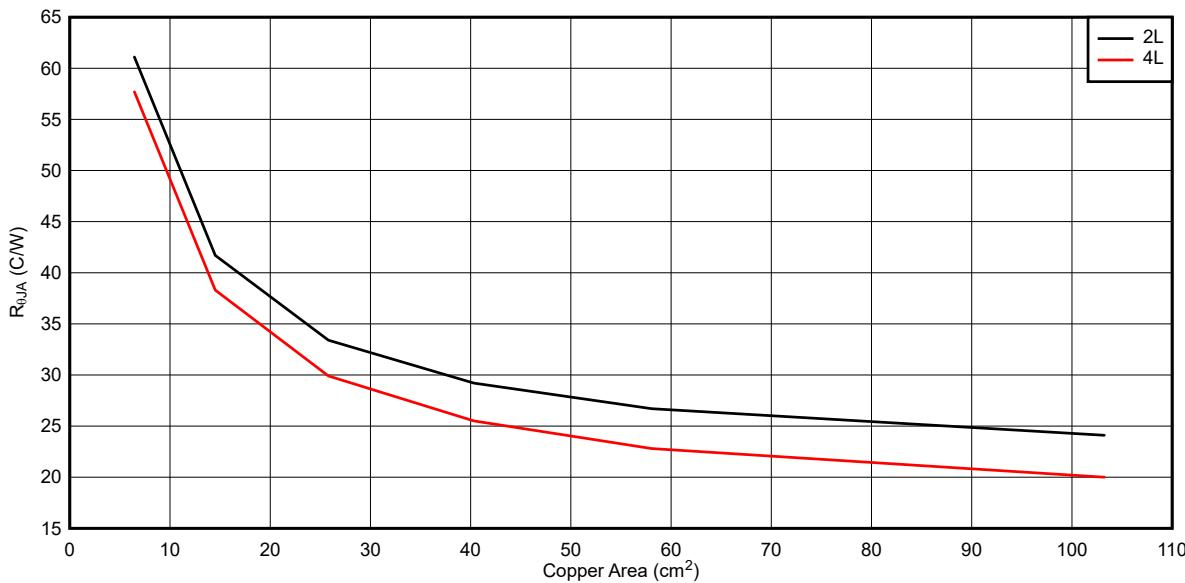
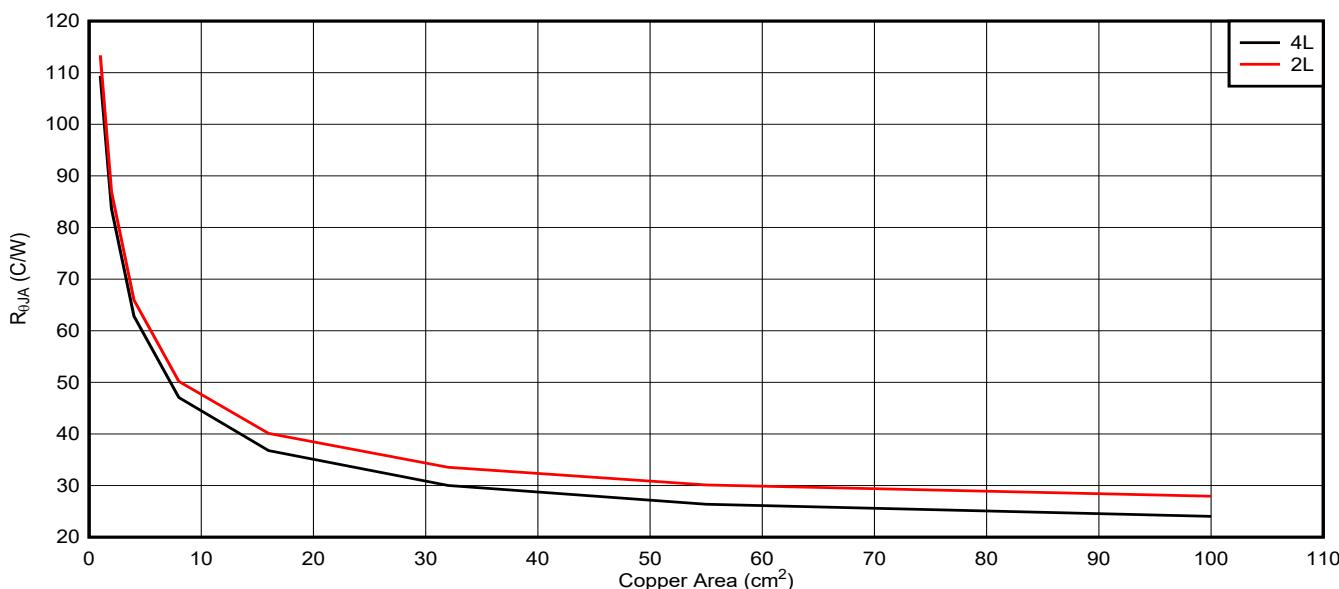
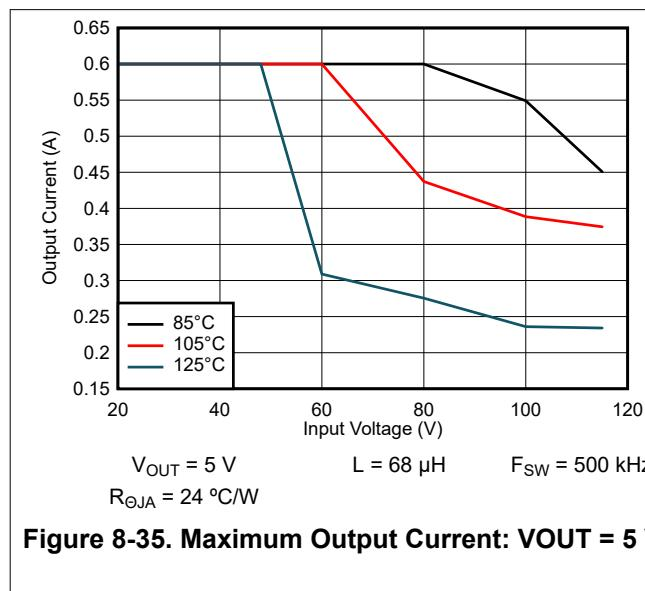
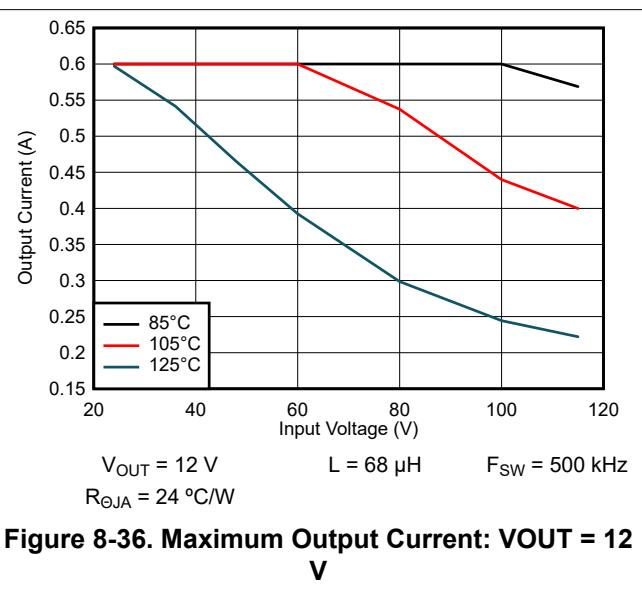

Figure 8-33. Typical $R_{\theta JA}$ Versus Copper Area for DDA package
Figure 8-34. Typical $R_{\theta JA}$ Versus Copper Area for NGU package
Figure 8-35. Maximum Output Current: $V_{\text{OUT}} = 5 \text{ V}$
Figure 8-36. Maximum Output Current: $V_{\text{OUT}} = 12 \text{ V}$
The LM516x features a die attach paddle, or "thermal pad" (EP), to provide a place to solder down to the PCB heat-sinking copper. This provides a good heat conduction path from the regulator junction to the heat sink and must be properly soldered to the PCB heat sink copper. Typical examples of $R_{\theta JA}$ can be found in Figure 8-33 and Figure 8-34. The copper area given in the graph is for each layer. The top and bottom layers are 2-oz copper each, while the inner layers are 1 oz.
The data in Figure 8-35 and Figure 8-36 can be used as a guide to determine the maximum output current for a given set of conditions. The particular conditions under which these graphs were taken are indicated in the notes below each graph.
Remember that the data given in Figure 8-33 through Figure 8-36 is for illustration purposes only, and the actual performance in any given application depends on all of the previously mentioned factors.